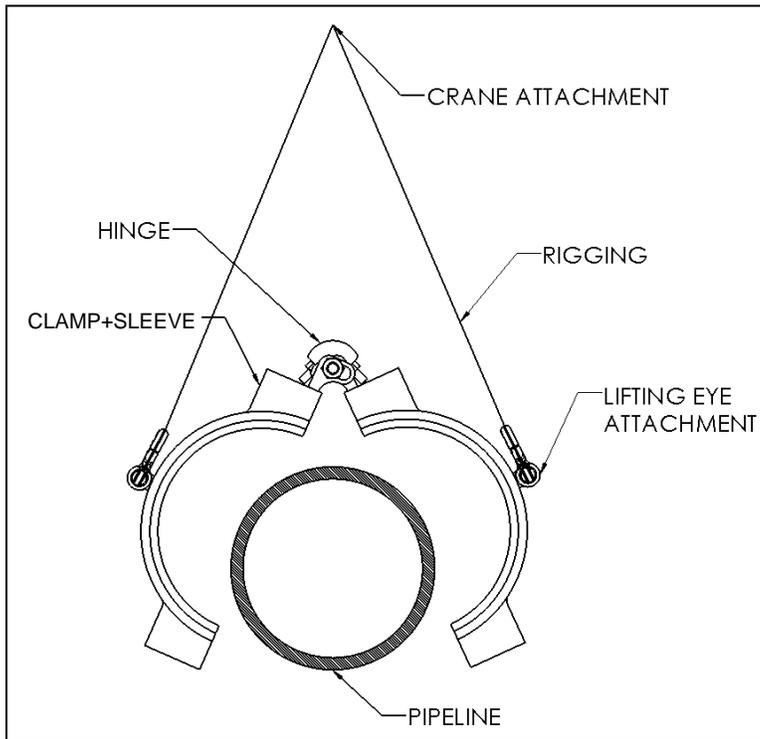

Figure 10
3. Attach properly sized rigging such as chains, cables, or straps to a single point crane attachment. The rigging should be sufficiently long enough that the rigging doesn't interfere with opening and closing of the fitting as shown in Figure 10.
4. Lift the fitting up from the single point crane attachment. The Clamp+Sleeve will open up as shown in Figure 10.
5. Position the fitting over the pipeline and slowly lower the fitting onto the pipeline as shown in Figure 10. The inside of the fitting should come in contact with the pipeline, and the fitting will start to close as it is lowered. Some fittings may require some additional side force to close the fitting around the pipe. Keep all body parts clear of the inside of the fitting at all times as the fitting is being lowered onto the pipe. This is to ensure safety in the event that the fitting slams closed rapidly.